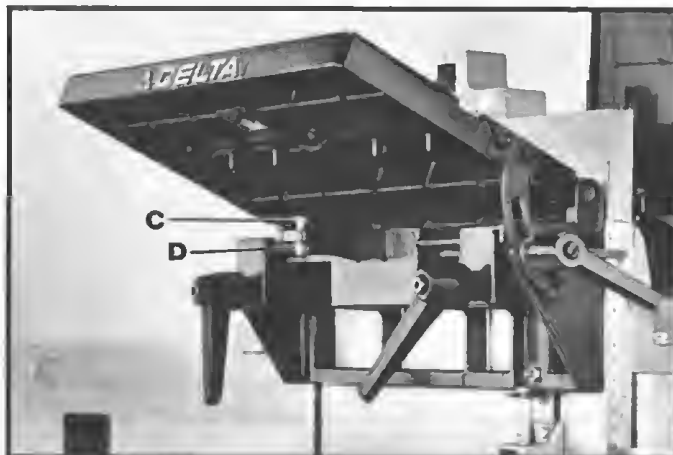

Fig. 24
3. If the table is not at 90 degrees to the fence, adjust the table accordingly making certain screw (C) Fig. 24, contacts bottom of table when the table is at 90 degrees to the fence. Screw (C) can be adjusted by loosening nut (D), turning screw (C) in or out the desired amount and tightening nut (D). This positive stop enables you to rapidly return the table to the 90 degree position after it has been tilted.